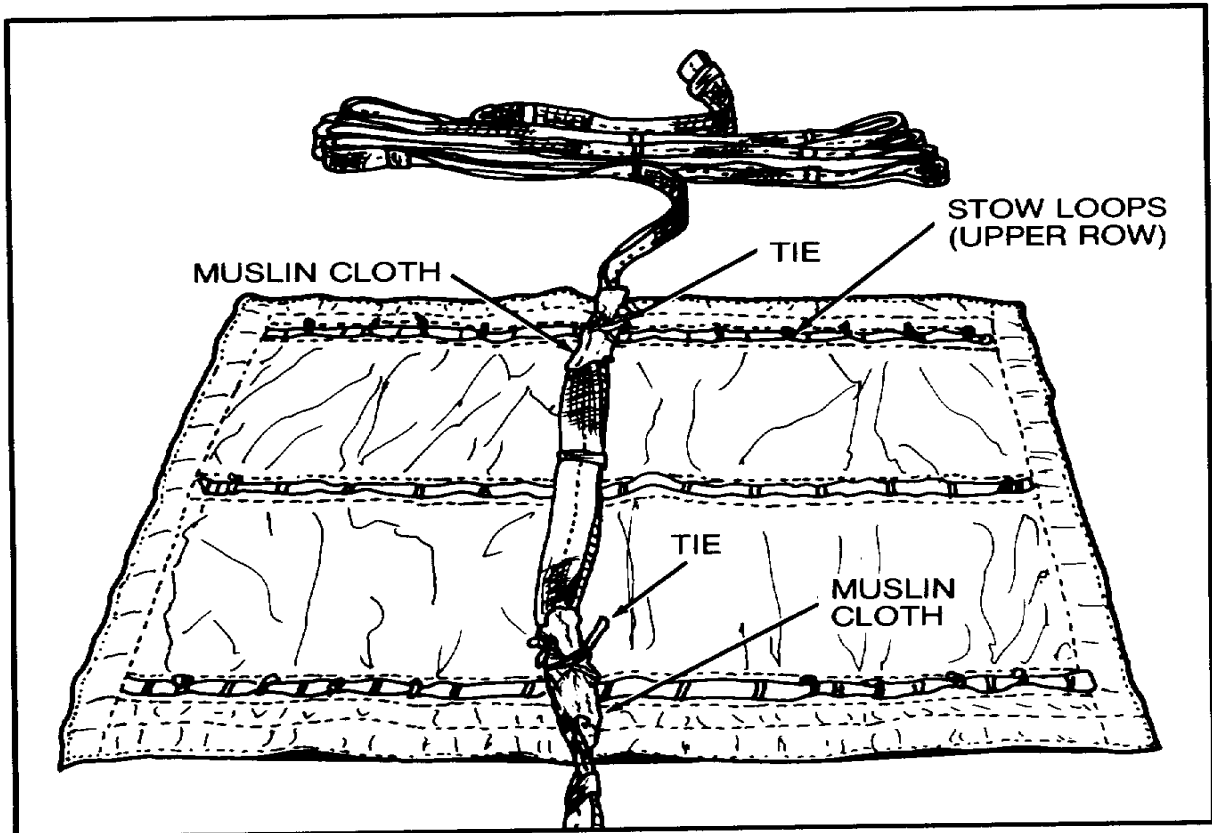

Figure 2. Wrapped Plies of Extraction Line Secured.
- a. Separate extraction line plies and wrap each ply with piece of 6 x 16-inch cotton muslin cloth position over upper and lower row of stow loops (figure 2).